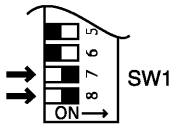

Fig. 5
12. Set the Rinnai Water Heaters to 'Forced High' combustion by setting both No. 7 and No. 8 dip switches of the bottom (SW1) set to 'ON'. (Fig.5). **Ensure maximum water flow !**